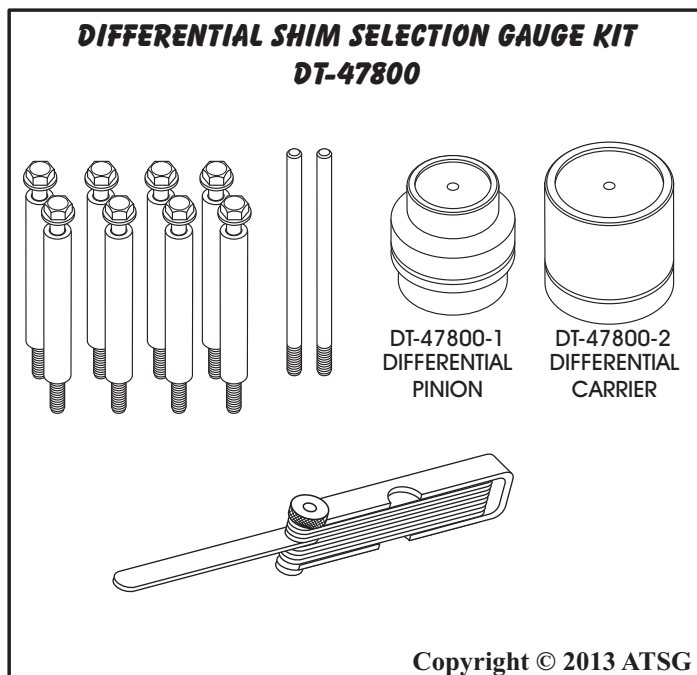

Figure 92
1. There is a differential shim selection gauge kit available from your local dealer under part number DT-47800 and is **mandatory** if bearing service is required. Contents of the gauge kit are illustrated in Figure 92.